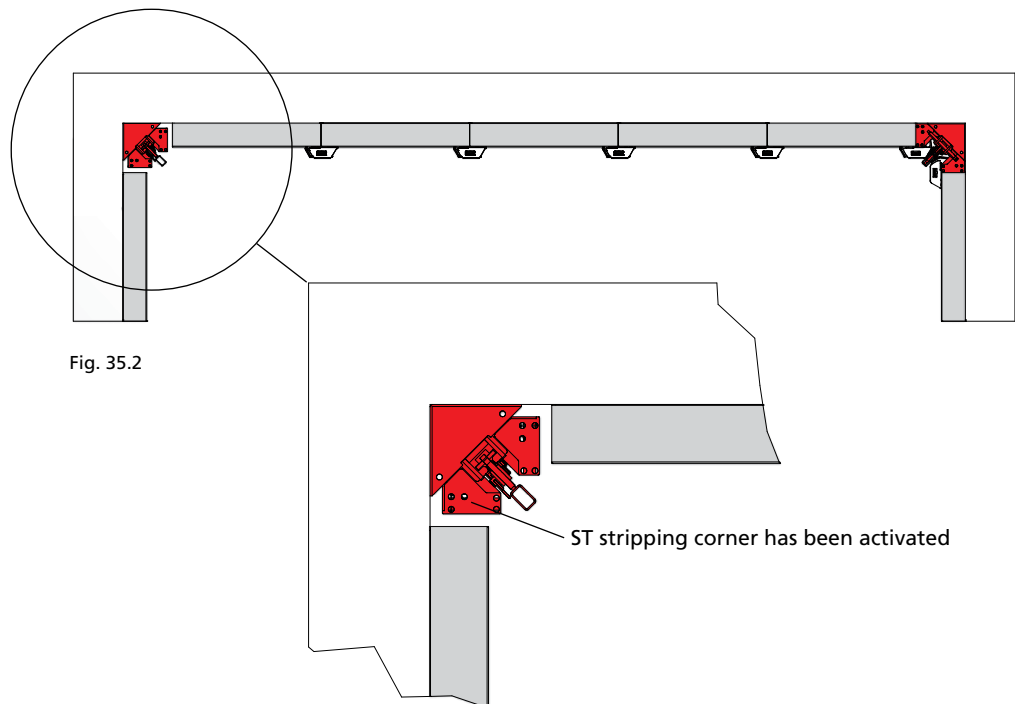

Fig. 35.2
2. Activate the ST stripping corners (Fig. 35.2 and p. ST/AS-32 through 34).